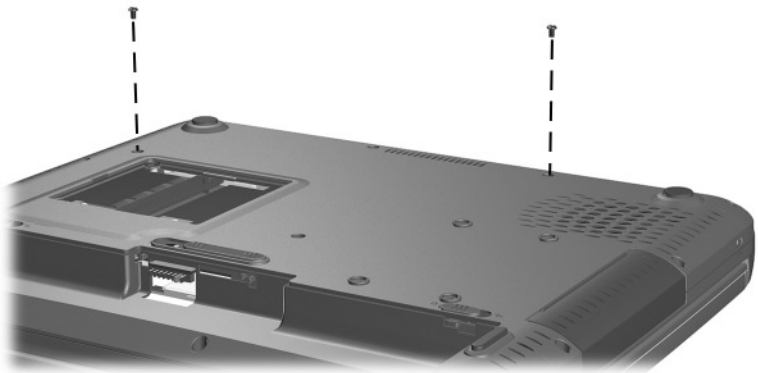

Figure 5-10. Removing the LED Switch Cover Screws
3. Remove the two TM2.5 × 7.0 screws that secure the LED switch cover to the base enclosure (Figure 5-10).